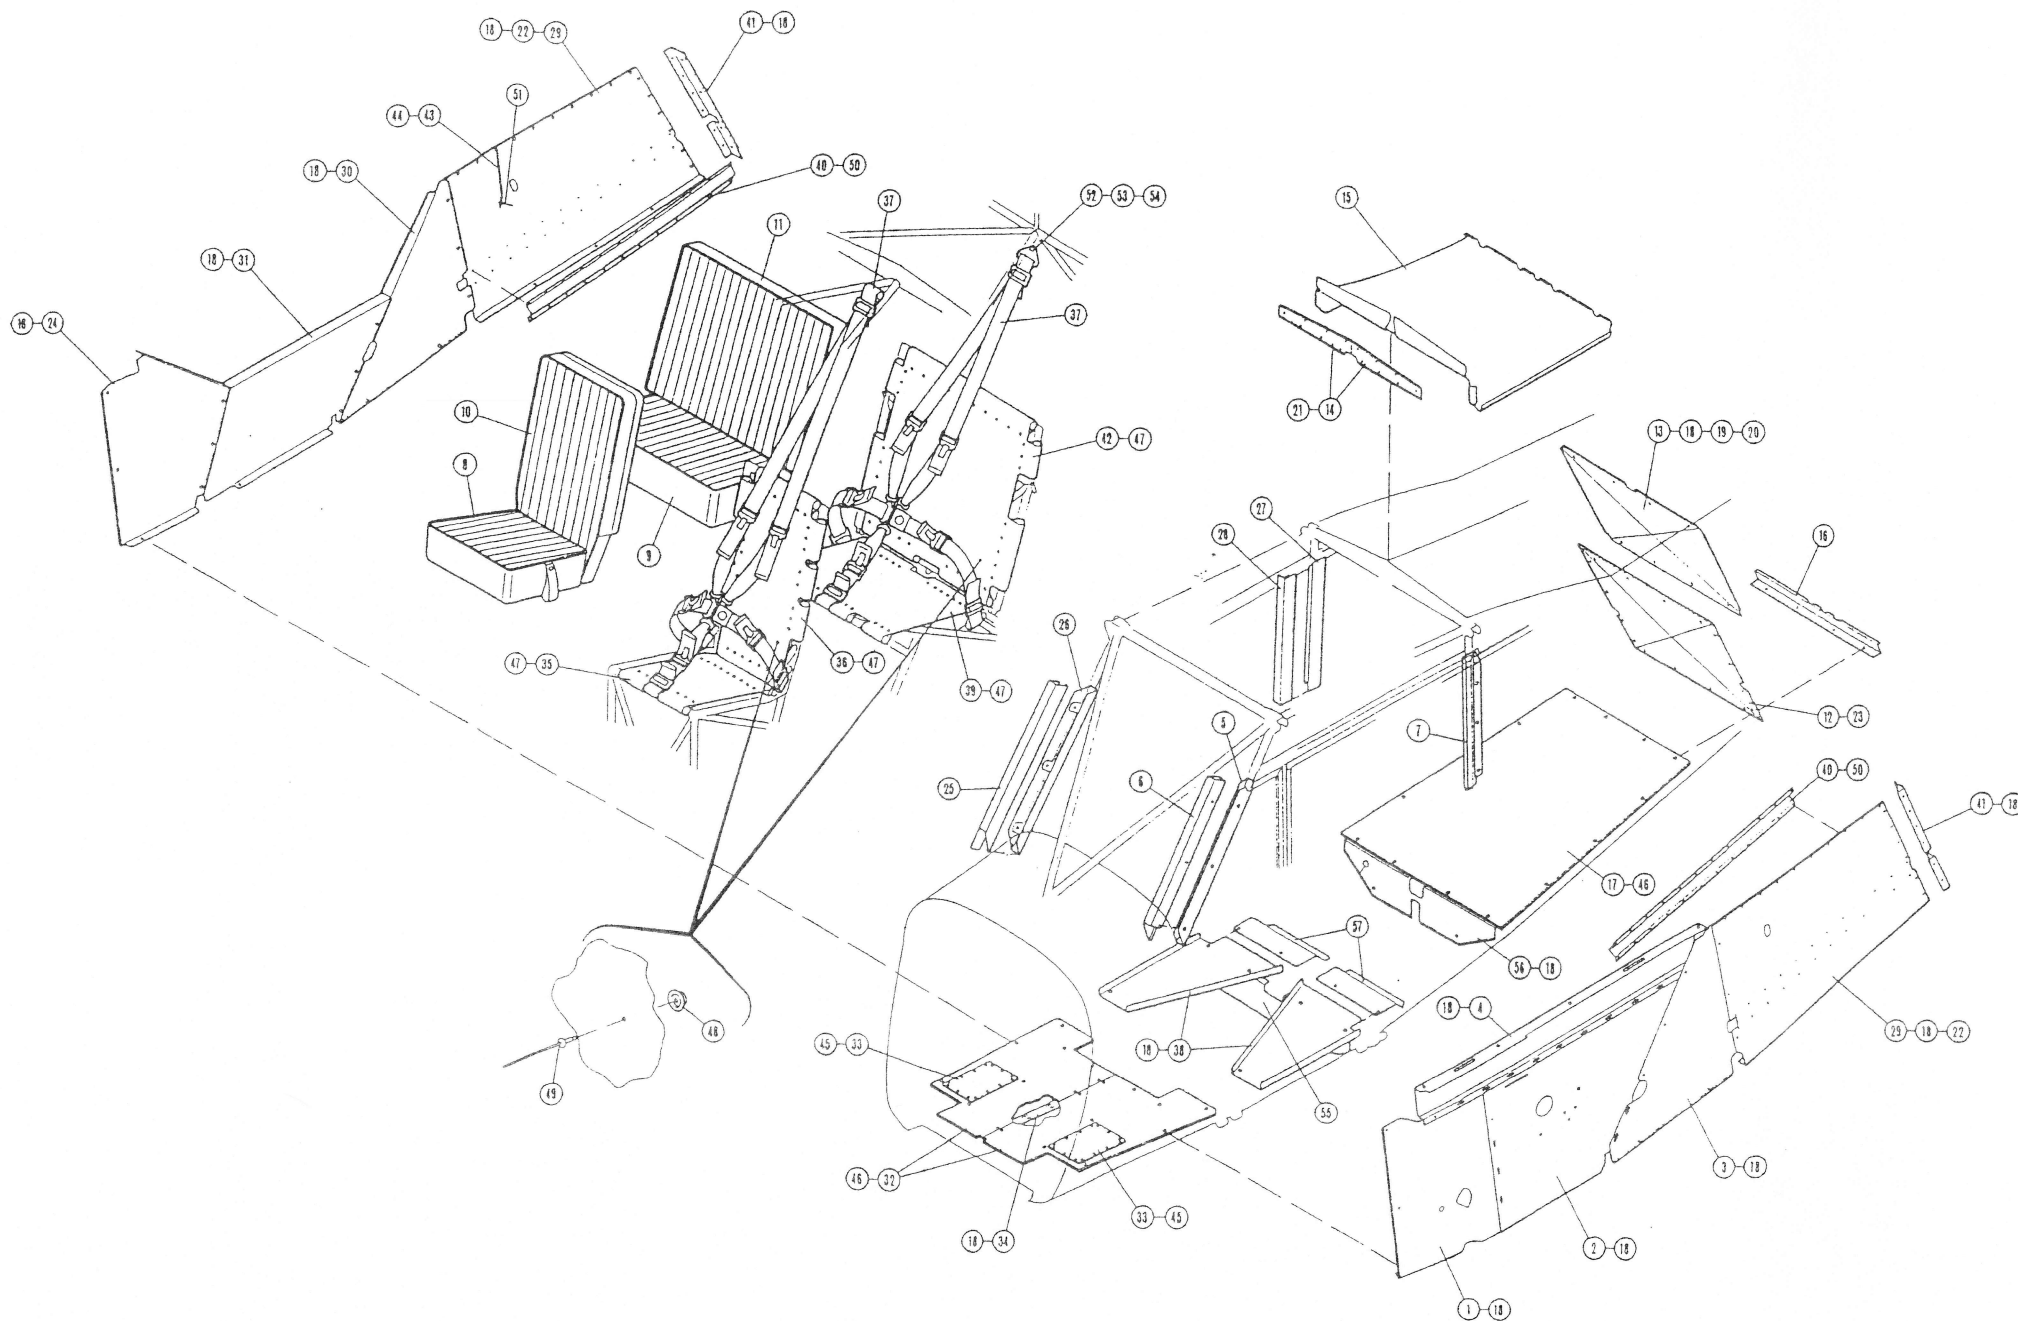

FIGURE 20: FUSELAGE INTERIOR
2. Access to the valve needs to be made from the outboard and inboard sides. On the left outboard side, remove panel 9 (Fig 21). It will be necessary to remove the bottom row of machine screws from panel 19. Remove the screws from panel 5. The bottom of panel 5 can be raised and held up by hanging it from safety wire secured to screws loosened from the left wing tank cover. The panel is thin enough to bend without damage. Inboard access is gained by removing the flap handle assembly, and panel 1 (fig. 20). The flap handle is removed by disconnecting the cable, removing the cotter pin 3 (fig. 15) and sliding out tube 2 (fig. 15). It is also necessary to remove the cabin heat box located forward of the front seat, The bungee cover just aft of the front seat control stick and the left hand floorboards, 32 and 38 (fig. 20)